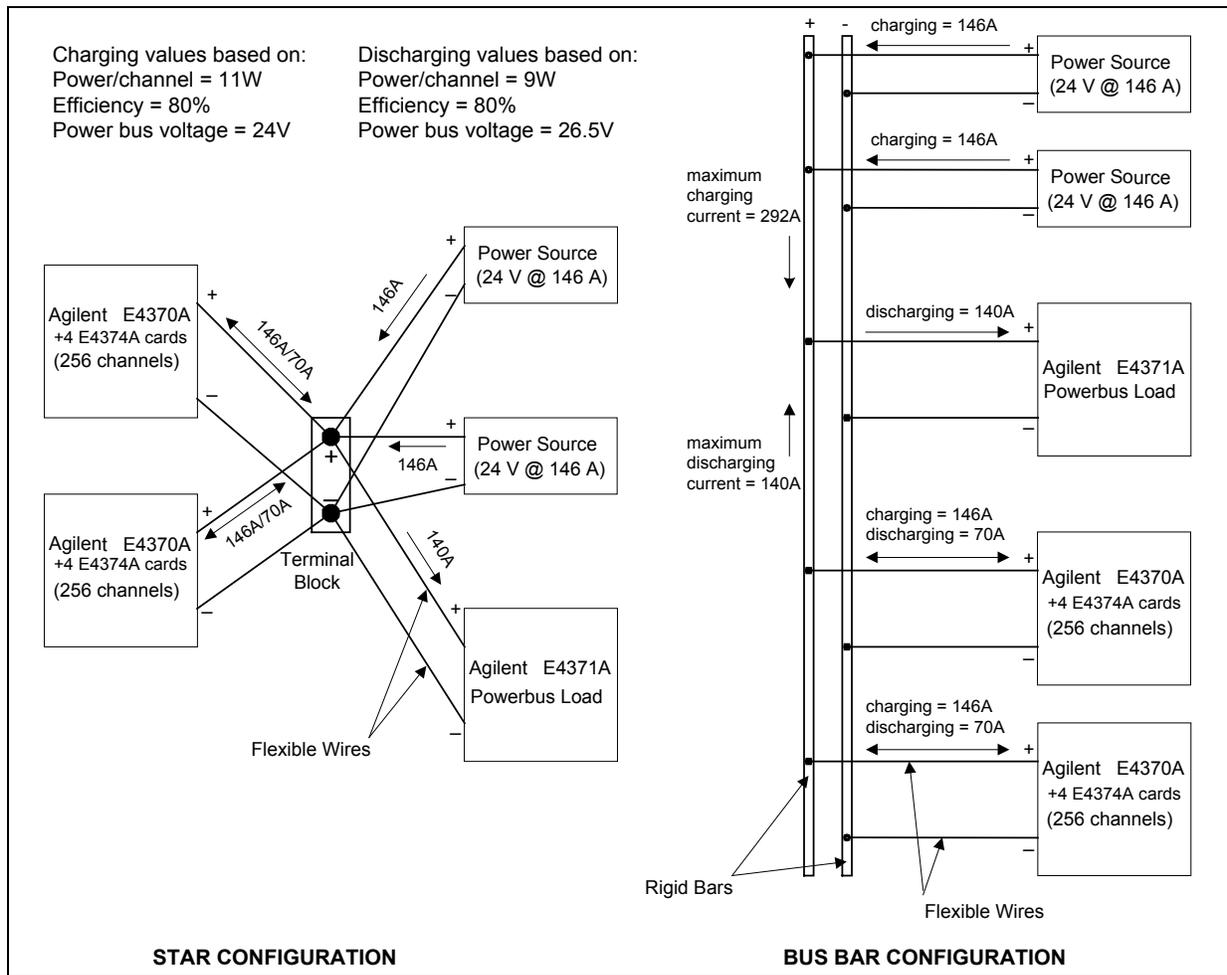

Figure 2-1. Typical Power Bus Configuration for Agilent E4374A cards
Figures 2-1 and 2-2 illustrate two typical power bus configurations consisting of two Agilent E4370A MCCD mainframes connected to one Agilent E4371A Powerbus Load and two external dc power supplies. As shown in the figures, current requirements may vary widely based on the way the equipment is connected to the power bus.
2. Divide the input power requirements of the Agilent MCCD by the minimum voltage required at the input terminals of the Agilent MCCD (22.8 volts). The result will be the maximum charging current required by the Agilent MCCD. (Double this current if you are simultaneously charging two Agilent MCCD mainframes as illustrated in Figures 2-1 and 2-2.)